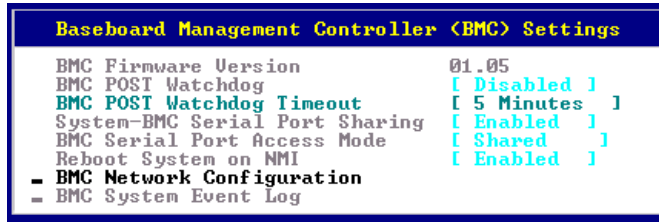

Figure 2-25 BMC Settings panel in BIOS
3. Select **Baseboard Management Controller (BMC) Settings**. The menu is as shown in Figure 2-25 on page 35.
You can access the BMC System Event Log (SEL) via the menu shown in Figure 2-25 or using tools such as OSA SMBridge. This event log records all the hardware alerts for the server. The event log displays one event per screen. Use the Get Next Entry and Get Previous Entry links to page through the events.